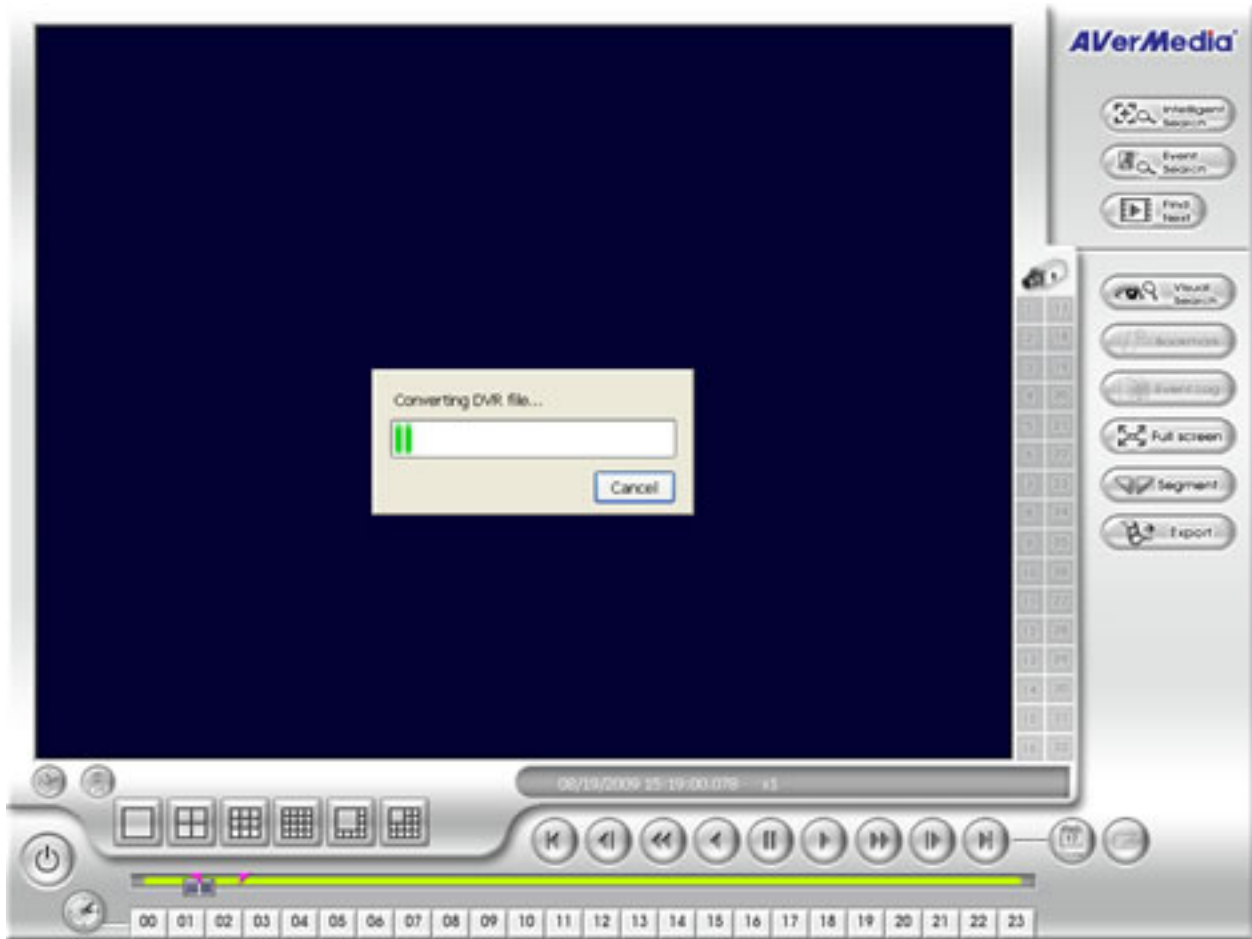

Figure 153. File Conversion Screen
9. The screen below will appear while the DVR file is being saved as an AVI file (Figure 153).